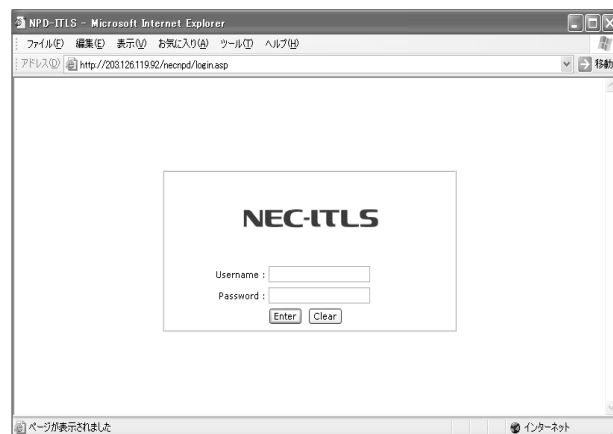

Fig. 2
1.3 Type the following user name and password into the dialog box and click "Enter" button. (Fig. 2)